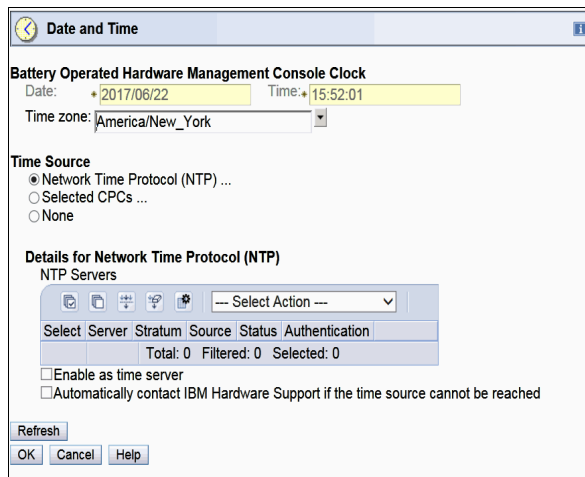

Figure 8-4 Customize Console Date and Time initial window
2. The Date and Time window opens. Select **Network Time Protocol (NTP)** from Time Source (see Figure 8-4).